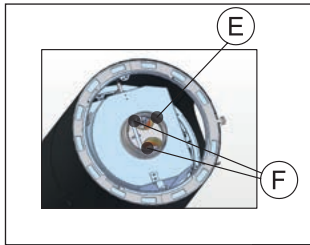

Fig. 2c
**Assembly from the rear to the top:** If the chimney connecting piece is already assembled, this must be removed (Fig. **2a** point A). Remove the top cover lid and the cover lid for the top flue gas connection (Fig. **2a** point B). Undo the screws and remove the cover plate (Fig. **2b** point B and C). Then disassemble the pipe nozzle of the rear outlet. Firstly remove the screws (Fig. **2b** point D). Assemble the pipe nozzle on the top flue gas connection (Fig. 2c point E and F). Then assemble the cover plate on the rear flue gas connection (Fig. **2d** point E and F). Finally fit the cover lid for the rear flue gas connection (chimney connecting piece) and reposition the cover lid (Fig. **2e** point E and G). Suitable storage stones can be fitted at the rear on the ambiente a4 (see point 2.3.3. Assembly of the heat storage mass).